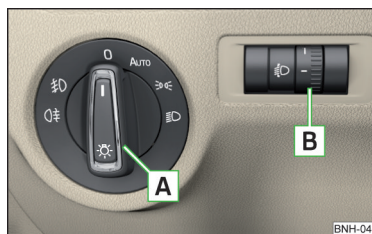

Fig. 39
The position of some of the controls on right-hand drive models may differ from that shown in » Fig. 39 on page 58. The symbols which mark the individual positions of the controls are identical.
Depending on the equipment configuration, the light switch **A** » Fig. 39 can be moved to the following positions.
Turning the dial **B** » Fig. 39 from the position **1** to **3** gradually adjusts the headlight range control and thereby shortens the light cone.
- ✓ The light switch is in the position **0** or **AUTO** » Fig. 39 on page 58.